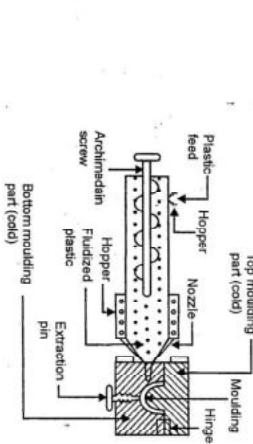

Fig. 1.9.2 : Injection moulding of plastic
- In this process a predetermined quantity of the granular or powdered resin is fed into a heated cylinder from where it is injected at a controlled rate through a nozzle into the tightly locked mould by means of a screw arrangement or by piston plunger as shown in the Fig. 1.9.2.